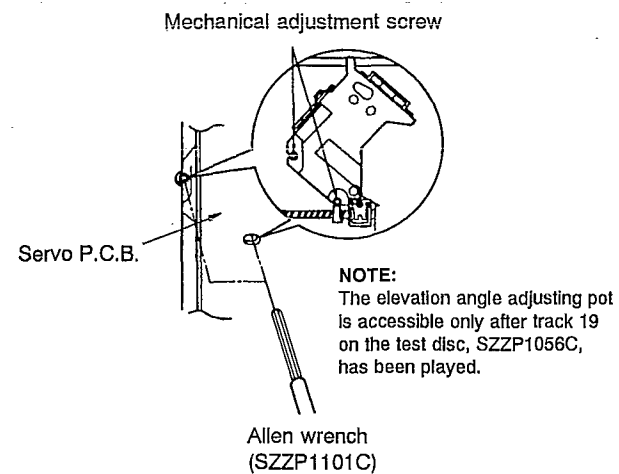

Fig. 3
4. Alternately adjust the two mechanical adjusting screws with the 2.0 mm allen wrench (SZZP1101C) unit the RF signal amplitude on the oscilloscope is maximize. (Shown in Fig. 3)